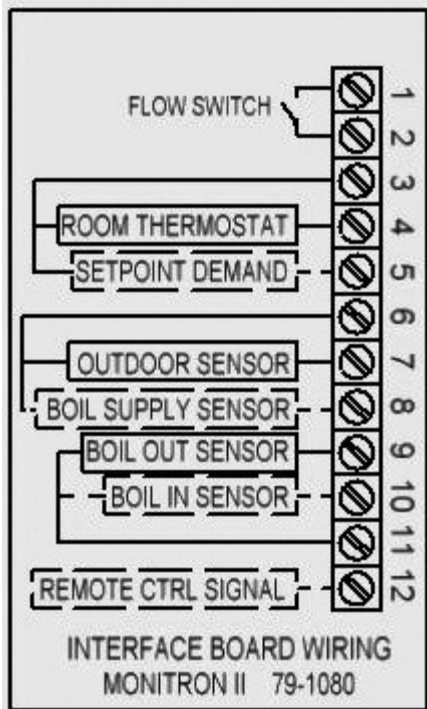

Figure 5. Electrical Connections
- The right-hand compartment under the Control Panel Cover contains a terminal board marked, (SLANT/FIN "INTERFACE BOARD"). Wire a 2-wire 24V room heating thermostat or the auxiliary end switch terminals of zone valves (see Figure 5) to terminals 3 and 4 at this time. The 1 and 2 terminals are for the flow switch. The flow switch circuit is a low voltage circuit.
- A. All circuit breakers ahead of and at boiler must be OFF. Remove the Service Connection Panel (right hand front). Cover by removing 5 screws from the top, bottom and side flanges (see wiring diagram on back of the Service Connection Panel and Figure 5).
Close bypass valve. Turn down all zone thermostats. Inspect all zone valves to be sure all are closed. Put a jumper on thermostat terminals 3 and 4. Close ALL panels and turn on the 10 AMP control circuit breaker ONLY. Be certain that the flow switch wires are not connected to the flow switch terminals 1 and 2 and the ends of the wires are taped. Be certain that a jumperwire is between terminals 1 and 2. Connect the ohmmeter or other continuity tester across the flow switch common terminal and the terminal that is normally open during NO FLOW. Slowly open bypass valve until continuity tester lights or ohmmeter kicks to zero: flow switch now has closed contacts, indicating required minimum bypass flow rate when piping circuits are shut off. Bypass valves should be locked at this position. Shut OFF ALL circuit breakers ahead of and at boiler and open CONTROL PANEL (left hand) FRONT COVER. Remove jumper on thermostat terminals 3 and 4. Remove flow switch jumper wire from terminals 1 and 2. Connect flow switch wire to flow switch terminals 1 and 2. Connect zone valve end switches (in parallel) to thermostat terminals 3 and 4. See Figure 5 and wiring diagram on boiler. Replace CONTROL PANEL COVER.